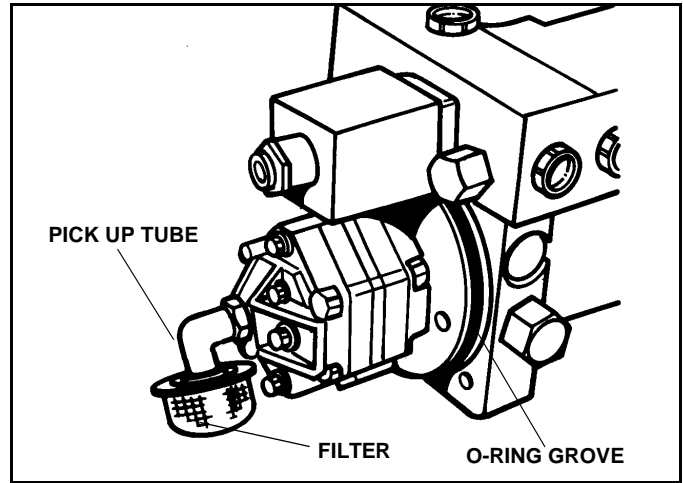

Figure 2-3
9. Visually check that the pickup tube and filter face down. (See Figure 2-3) If not, rotate the pickup tube until the tube and filter face down.
11. Remove the Magnet from the side of the pump and carefully remove any metal particles from the Magnet and place the Magnet back on the side of the pump. (See Figure 2-3)